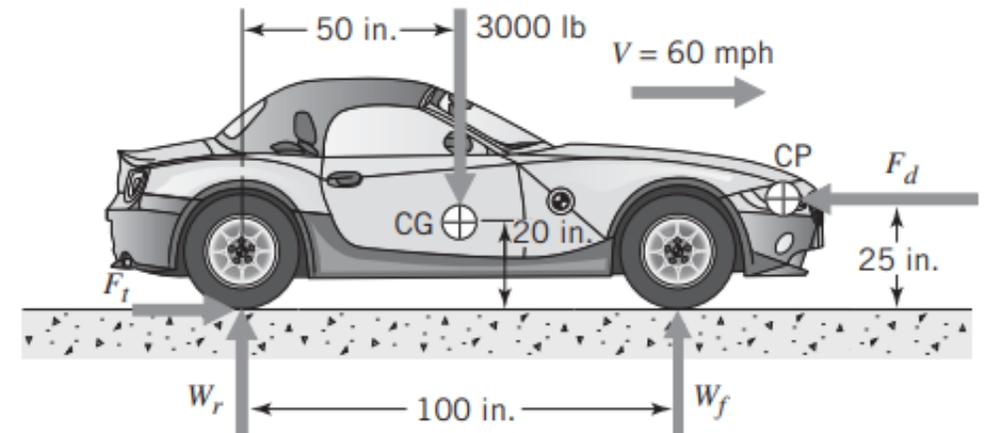

FIGURE 2.1 Free-body diagram of auto traveling at constant speed.
The 3000-lb (loaded weight) car shown in Figure 2.1 is traveling at 60 mph and at this speed the aerodynamic drag is 16 hp. The center of gravity (CG) and the center of aerodynamic pressure (CP) are located as shown. Determine the ground reaction forces on the front and rear wheels.